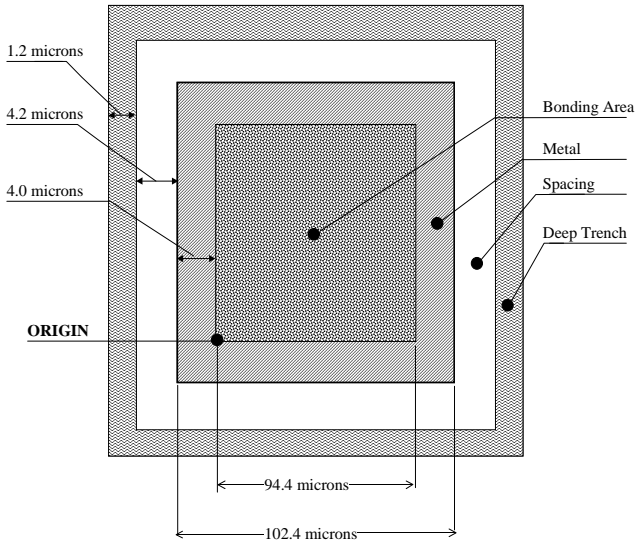

Figure 3. Square bond pad
Pad geometry varies from process to process. The bonding area is the section of the pad that is available for bonding (metal not covered by glass). Figures 3 and 4 illustrate how the origin is defined for square and octagonal pads.* Table 1 lists definitions of general wafer and pad parameters used in the bonding process.
* Pad-dimension variables are process-related. The dimensions given in Figures 3 and 4 relate to the F60 process.